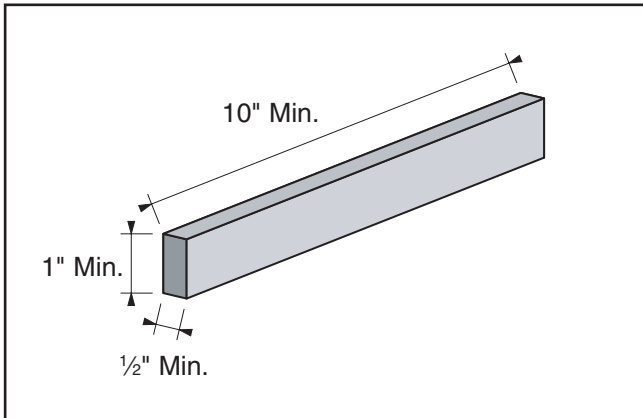

Figure 19. Minimum dimensions for edge jointing.
- **Make sure your workpiece exceeds the minimum dimension requirements (Figures 19 & 20) before edge jointing or surface planing, or it may break or kick back during the operation!**